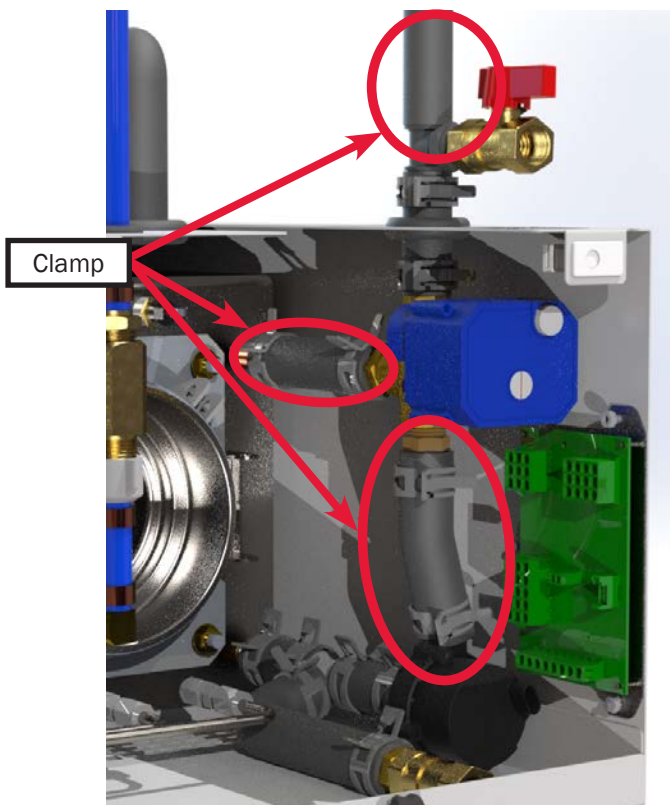

Figure 48
2. Use clamp hose pliers to pinch tubing surrounding the three-way valve as indicated in Figure 48.